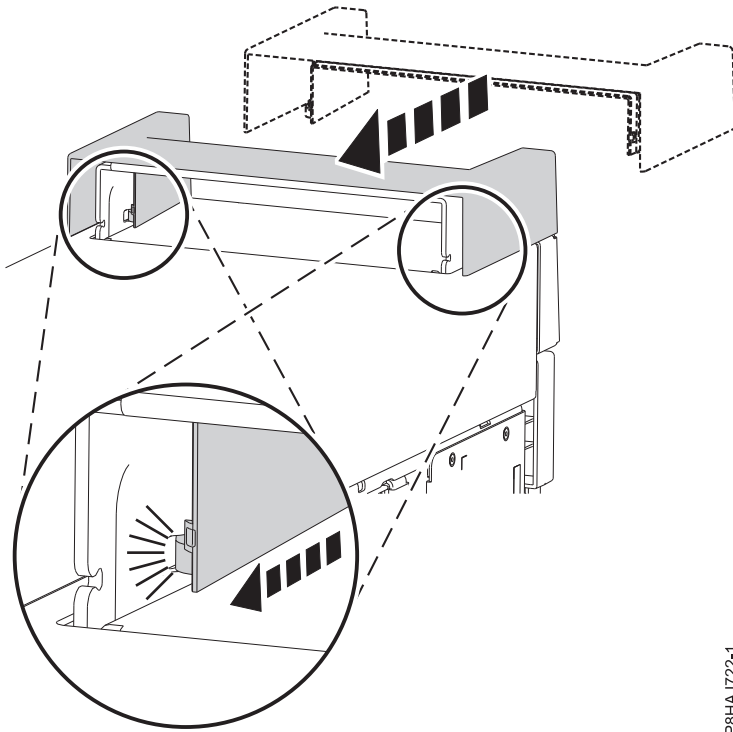

Figure 23. Securing the handle cover in an 8286-41A stand-alone system
1. Secure the handle cover to the internal RDX docking station (FC EUA3) by sliding it toward the rear of the system. See Figure 23.